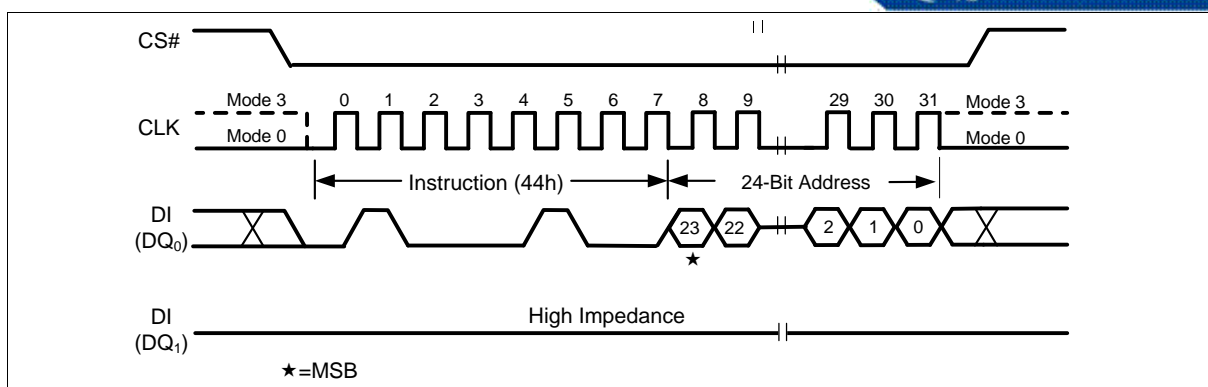

Figure 60 Erase Security Sector Instruction (SPI Mode only)
The Erase Security Sector instruction sequence is shown in Figure 60. The CS# pin must be driven high after the eighth bit of the last byte has been latched. If this is not done the instruction will not be executed. After CS# is driven high, the self-timed Erase Security Sector operation will commence for a time duration of t_{SE} (See "11.6AC Electrical Characteristics"). While the Erase Security Sector cycle is in progress, the Read Status Register instruction may still be accessed for checking the status of the WIP bit. The WIP bit is a 1 during the erase cycle and becomes a 0 when the cycle is finished and the device is ready to accept other instructions again. After the Erase Security Sector cycle has finished the Write Enable Latch (WEL) bit in the Status Register is cleared to 0. The Security Sector Lock Bit (LB) in the Status Register-2 can be used to OTP protect the Security Sector. Once a lock bit is set to 1, the Security Sector will be permanently locked and Erase Security Sector instruction will be ignored.